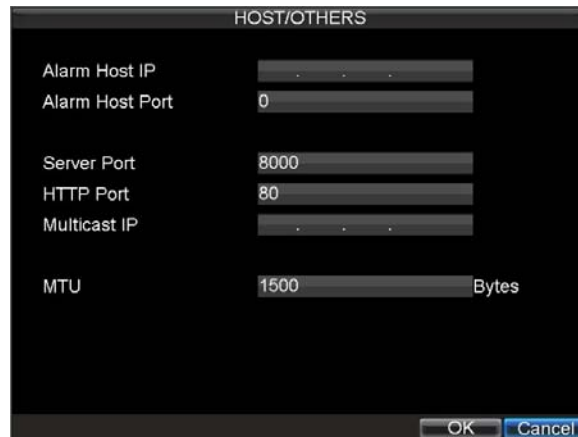

Figure10. Host/Others Menu
4. Set **Multicast IP**, as shown in Figure 10. When adding a device to the Network Video Surveillance software, the multicast address must be the same with the DVR's multicast IP.